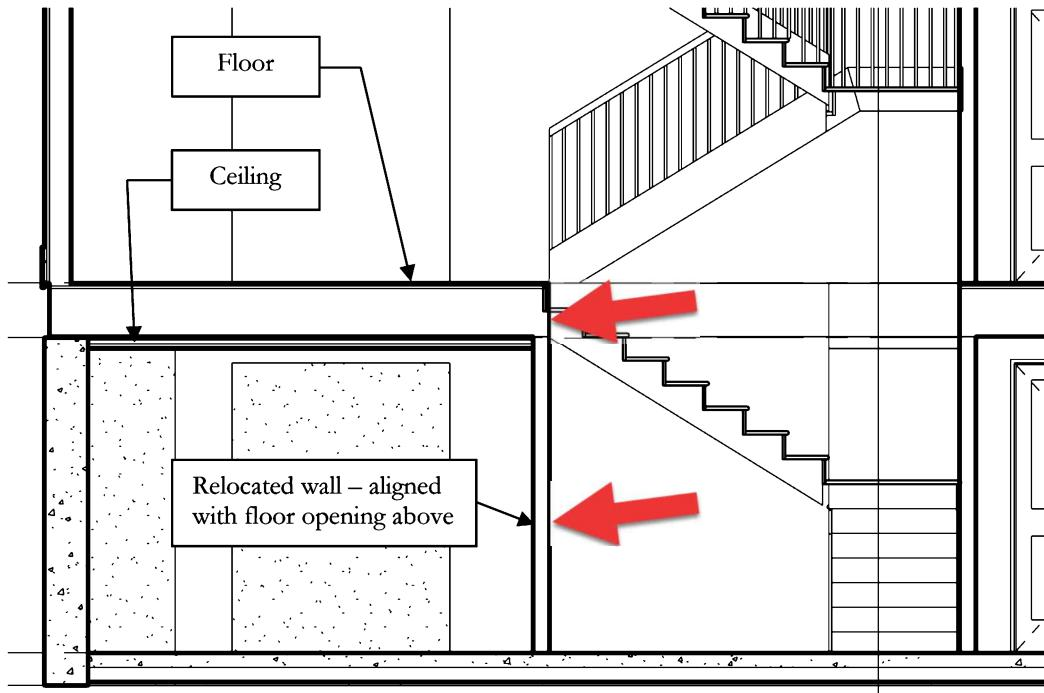

FIGURE 11-2.1 Cross Section 1 view; wall below stair moved
3. Use the **Align** tool to make the wall align with the edge of the floor opening (Figure 11-2.1).